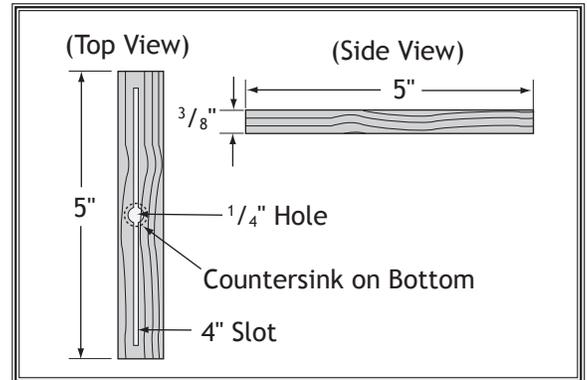

Figure 80. Miter bar pattern.
5. Cut a miter bar approximately 5" long that will fit in table miter slot, as shown in **Figure 80**.